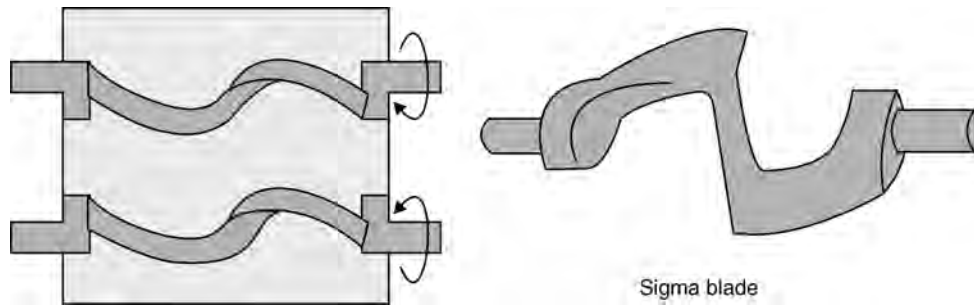

FIGURE 6.12 Double arm kneader.
- Figure 6.12 illustrates common designs of double arm kneader mixers.